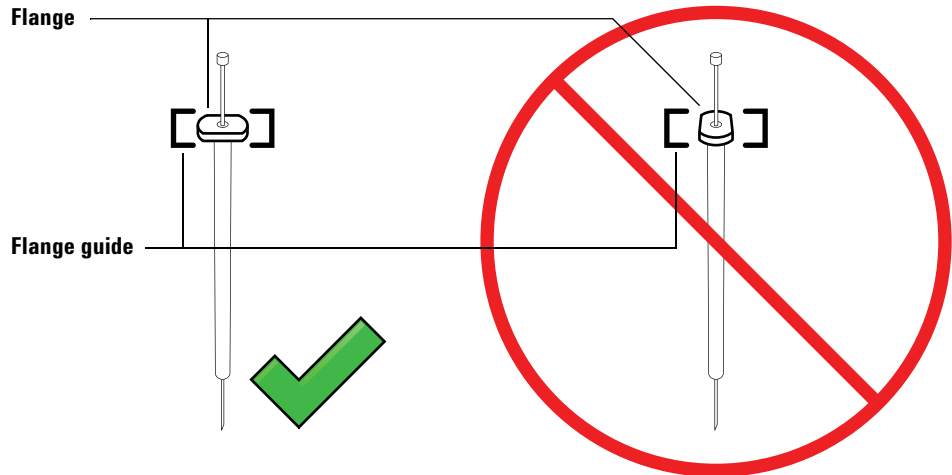

Figure 60 Syringe flange orientation
- Align the syringe flange with the flange guide and press the syringe into place, keeping the needle end in the guide hole of the needle support foot. Make sure that the flat edge of the syringe flange faces out (Figure 60).